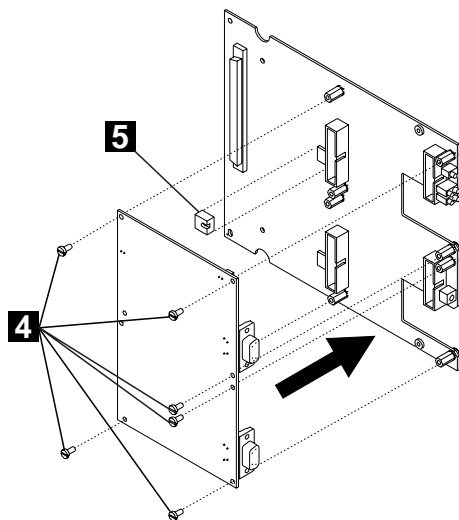

Figure 9. Attaching the I/O Card
- 5 Attach the I/O card to the motherboard using the six screws provided (4 in Figure 9).